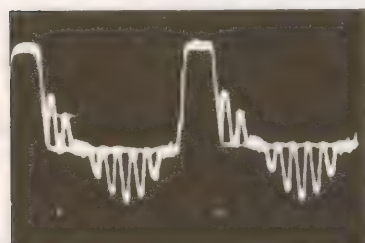

Fig. 4-7. Scope connections to adjust the burst amplifier transformer
2. Connect a scope to the collector of continuous wave drive Q306 as shown in Fig. 4-7.